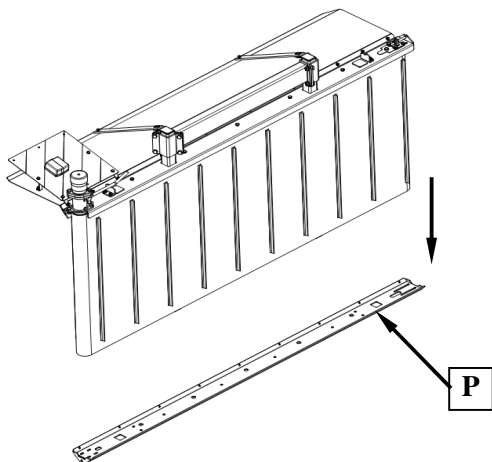
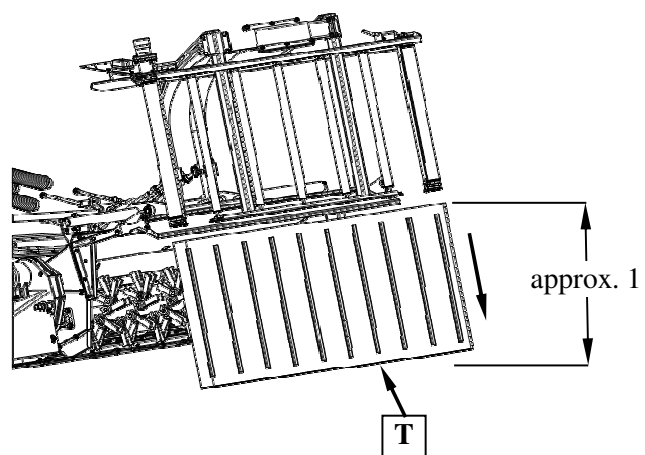

Fig. 39.
Fig. 40.
2. Dismount front belt in lower part of the conveyor **P** (**Fig. 39**). Slide belt **T** down (**Fig. 40**).